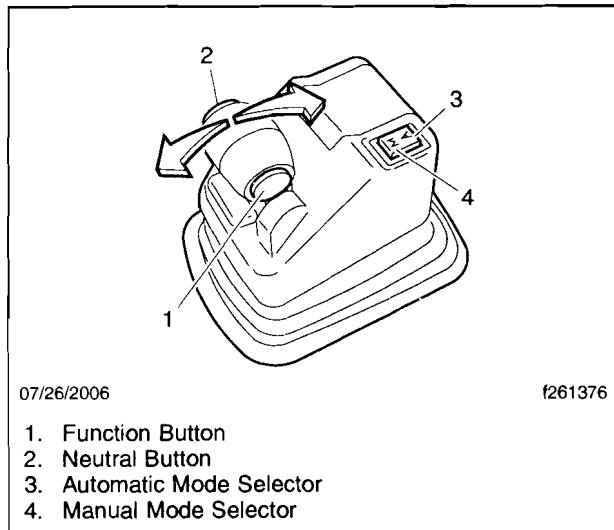

Fig. 17, Gear Shift Lever
NOTE: To shift to a forward gear, press the function button on the left side of the gearshift. Hold down the function button, push the shift lever forward, then release the button. See **Fig. 17**.
2. Press and hold the neutral button, located on the right side of the gear shift, for steps 1 through 4. See **Fig. 17**.
- With the engine off, put the mode selector in the A position (for automatic), lock the clutch pedal in the up position, and put the transmission in neutral. See **Fig. 17**.